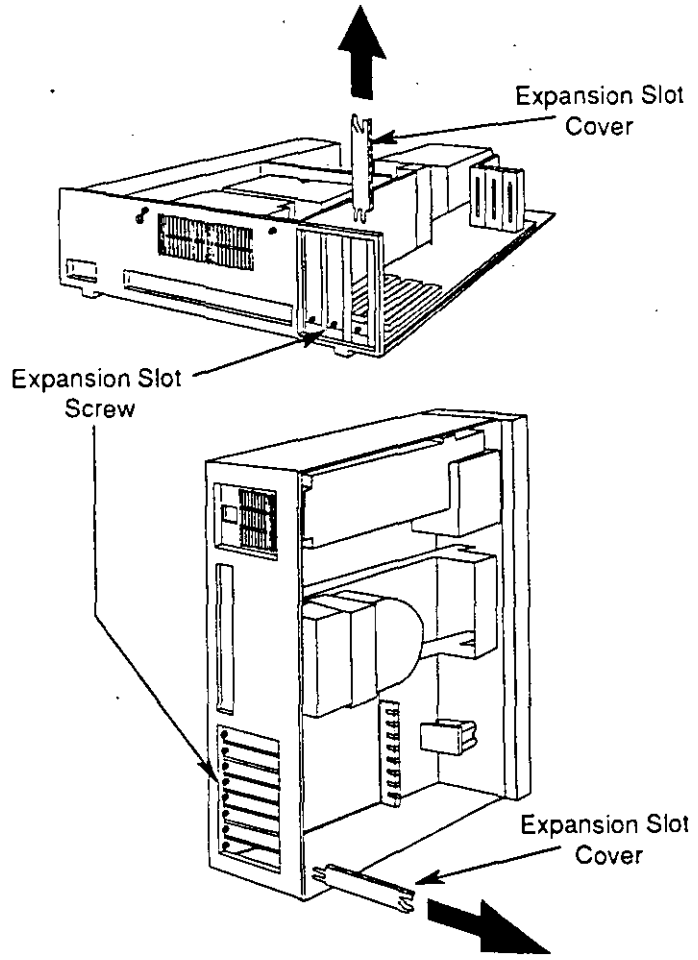

Figure 2.20
3. Loosen the screw on any empty expansion slot cover as shown in Figure 2.20.
4. Pull out the expansion slot cover as shown in Figure 2.20. (Refer to the system that most closely resembles the one you are using.)